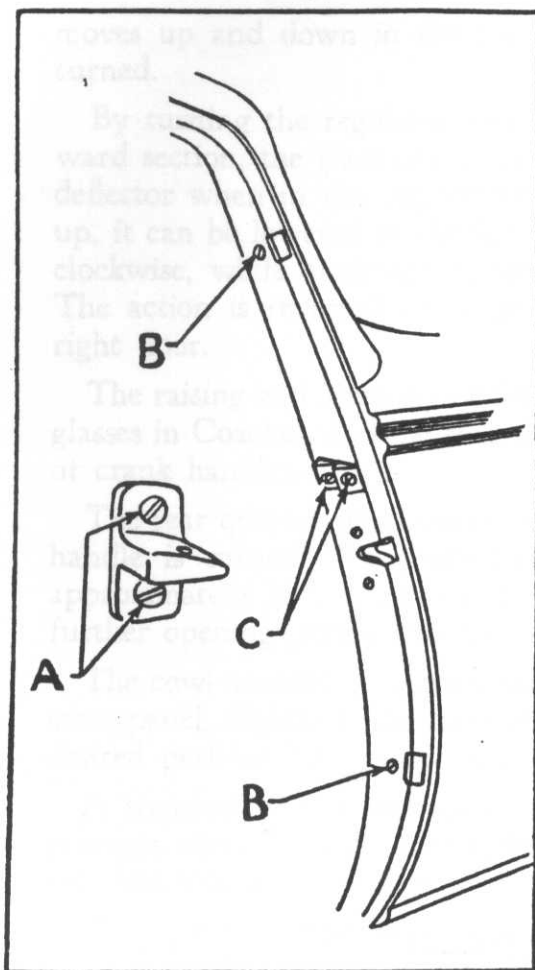

Figure 16
To adjust doors, first loosen the screws (A), Figure 16, holding the male portion of the dovetail to the door and move up or down as necessary so that it lifts the door  $1/16$ " as it enters the female member when the door is being closed.